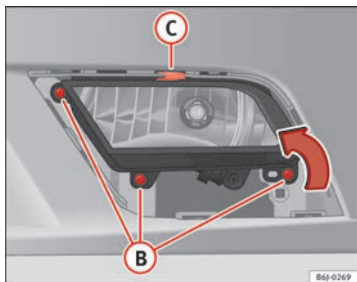

Fig. 158 Fog lights
- Remove the bolts (3x) ⇒ fig. 158 **B** to remove the fog light.
- Remove the metal clip situated on the upper part of the fog light pulling towards the exterior of the vehicle ⇒ fig. 158 **C**. ■